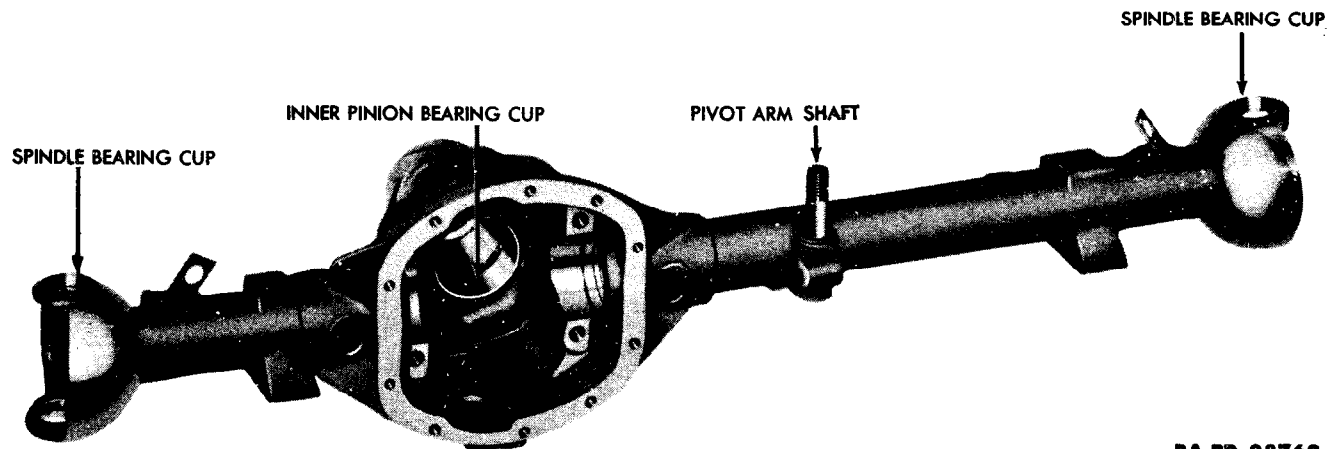

Figure 53 — Front Axle Housing
b. Inspection and Repair.**(1) AXLE HOUSING (fig. 53).**
(b) *Pivot Arm Shaft Replacement* (fig. 53). With a long nosed drift, drive out the dowel that secures the pivot arm shaft to the axle housing. Tap the shaft out of the housing. To install a new pivot arm shaft, insert it in the bracket on the housing with the dowel slot in line with the dowel hole. Drive dowel in place.